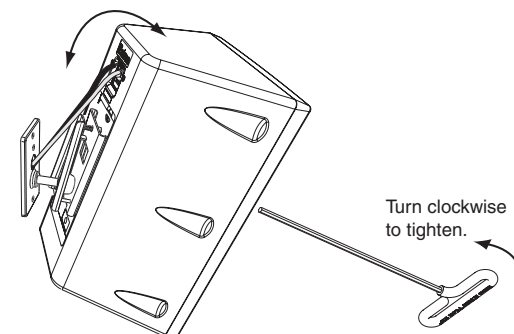

Figure 8 — Adjust speaker and lock in place
10. To adjust the angle of the speaker, carefully remove the Extron logo on the front of the speaker to expose the front locking access (see Figure 1, Item 3, for location). Insert the allen hex tool into the locking access, and slightly loosen the hex cap screw. Adjust the speaker to the desired angle (see figure 8), and torque the cap screw down clockwise until snug. The speaker will sit securely in the desired position. Install the Extron logo.